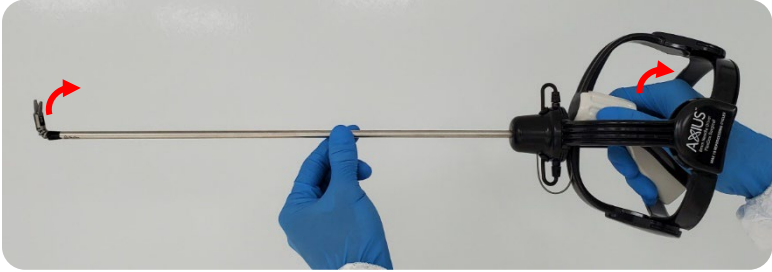

FIGURE 3: Articulating the AXIUS™ 8mm Needle Driver tip up.
1. Use the handle to fully articulate the distal tip up, down, left, and right (FIGURE 3). Ensure the distal tip articulates smoothly in a continuous motion.